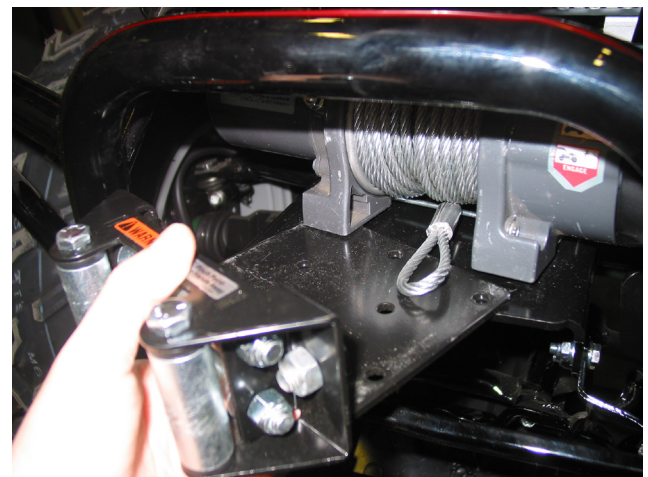

Figure 3
2. Loosely secure winch mounting plate (5) to vehicle frame mount using four 5/16 bolts (2). Terminate with flat washers (4) and 5/16 lock nuts (3). Do not fully tighten.
3. Use 5/16 u-bolts (1) to secure rear portion of winch mounting plate to vehicle frame cross member. See Figure 3. Terminate with 5/16 lock nuts (3) and 5/16 flat washers (4).